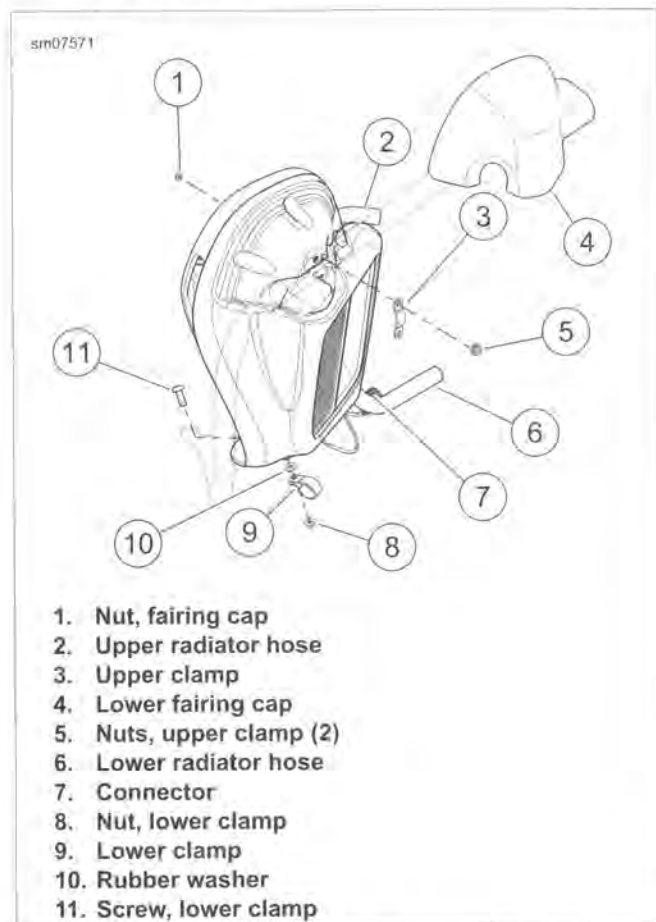
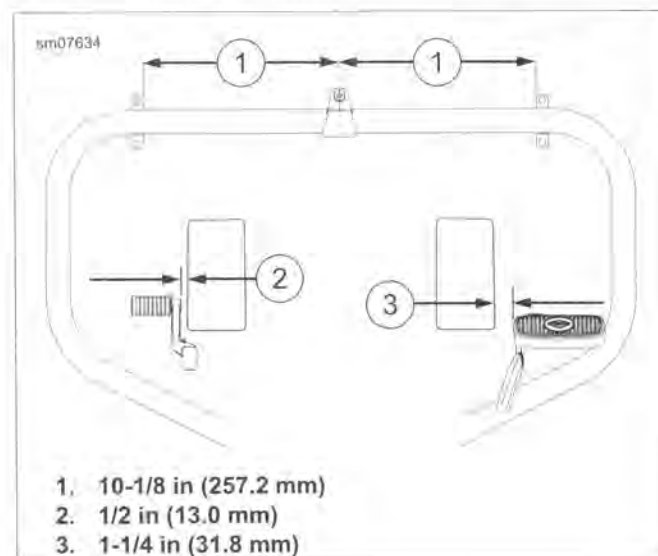

Figure 2-134. Lower Fairing: Twin-Cooled
Figure 2-135. Lower Fairing Mounting Dimensions
4. See Figure 2-134. Disconnect upper (2) and lower (6) radiator hoses from the upper cross tube and thermostat respectively.
5. Disconnect fan power connector (7) located near pump.
6. Remove flange nut (1) securing fairing lower cap (4). Remove fairing cap.
7. Remove fairing lower clamp screw (11) and nut (8). Discard rubber washer (10).
8. Remove flange nuts (5) securing upper clamp (3). Remove fairing lower assembly.
2. See Figure 2-134. Install upper clamp (3) and two flange nuts (5). Leave fasteners loose.
3. Install **new** rubber washer (10), clamp (9), screw (11) and nut (8). Leave fasteners loose.
4. See Figure 2-135. Align upper clamp to dimension (1).
5. See Figure 2-134. Tighten flange nuts (5) to 40-45 in-lbs (4.5-5.1 Nm).
See Figure 2-135. Verify shift lever and brake pedal do not contact fairing lower vent. Clearance from the vent openings to the shift lever (2) and brake pedal (3) should approximately match the distance shown.
6. See Figure 2-134. Verify that fairing lower is aligned. Tighten lower screw (11) to 90-100 in-lbs (10.2-11.3 Nm).
7. Install fairing lower cap (4) with flange nut (1). Tighten to 40-45 in-lbs (4.5-5.1 Nm).
9. Connect fan power connector (7) located near pump.
10. Connect upper (2) and lower (6) radiator hoses to the upper cross tube and thermostat respectively.